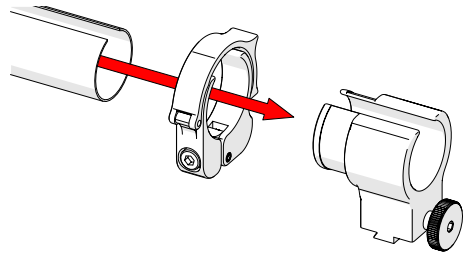

Fig. 93 - Slide tube around mount
2. Slide the clamp around the tube first and then slide the tube around the outside of the cable management dovetail mount (*Fig. 93*). Align the zipper opening and the cable management dovetail mount opening.